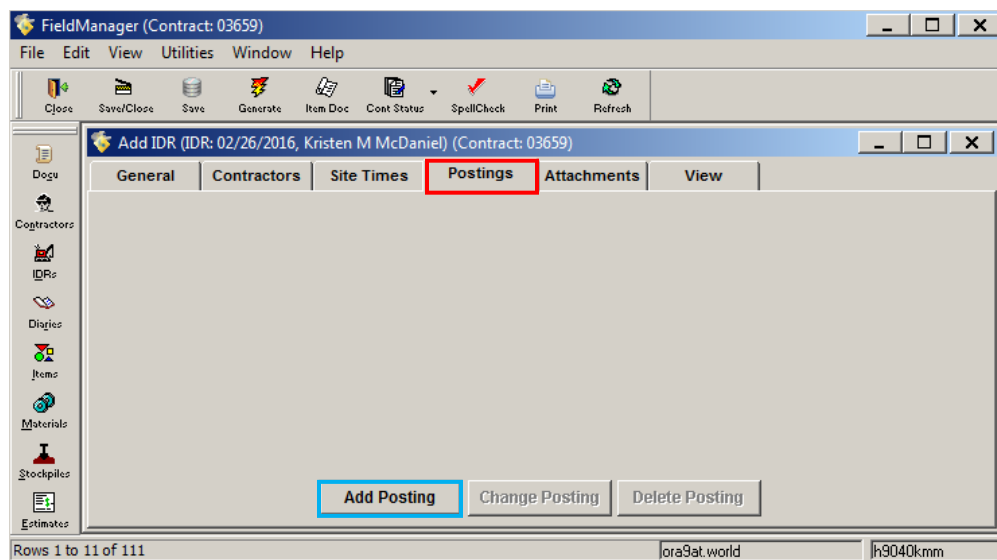

Figure 7-4. Add IDR – Postings Tab
1. Click on the **Postings** tab (Figure 7-4).
2. Click the **Add Posting** button at the bottom of the tab window (See blue box in Figure 7-4). The Items list will open (Figure 7-5).